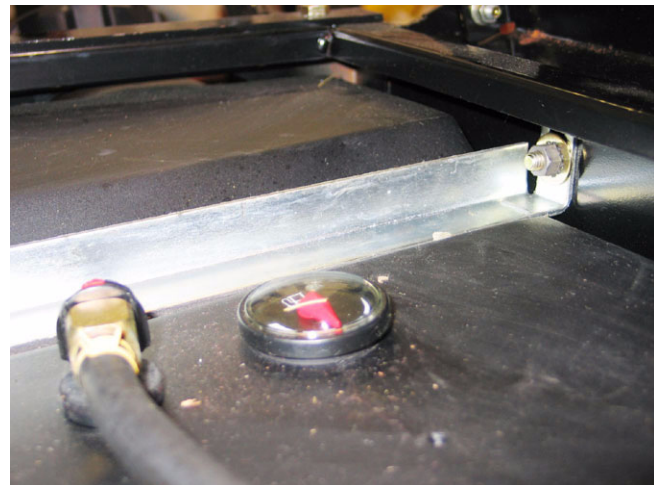

Figure 4.47
- 4.47. The fuel tank bracket assembly can be removed using 7/16" wrench. See Figure 4.47.